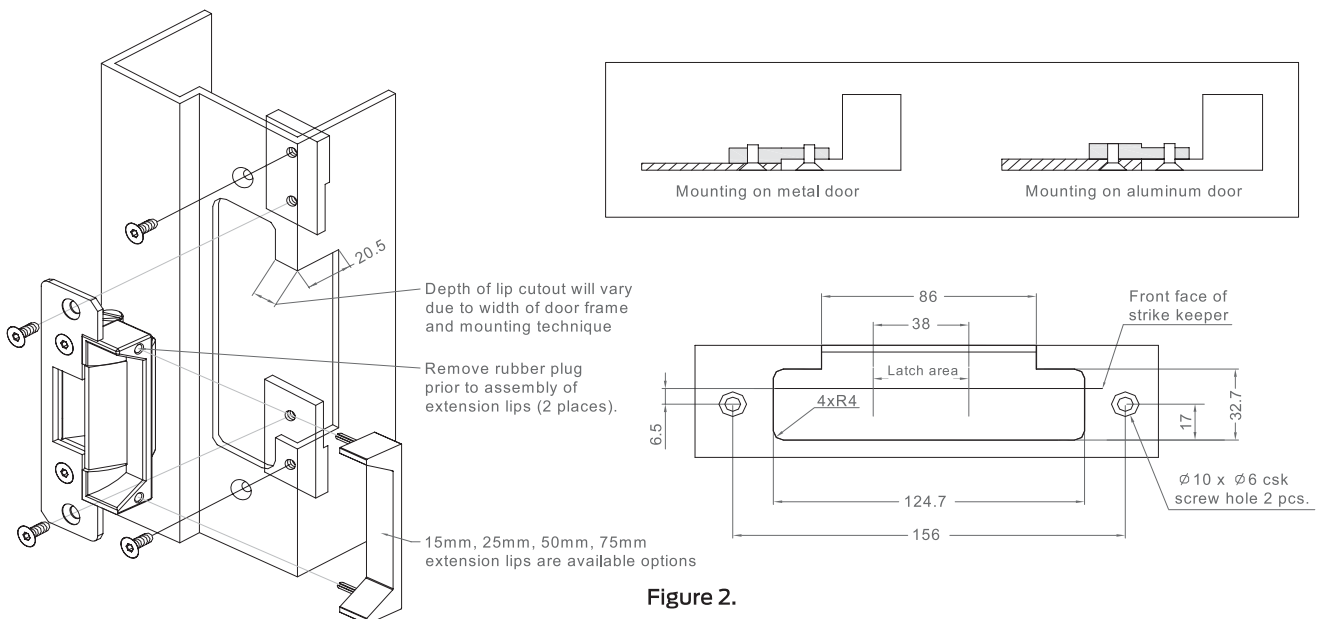

Figure 2.
1. For aluminum or metal door frame, refer to Figure 2 (brackets are supplied for assembly),
For timber door frame refer to Figure 3. Mark and drill the hole sizes as indicated on Figure 2 and Figure 3.